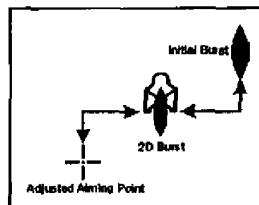

Figure 071-312-3031-3. Adjusted aiming point method
4. Adjust fire using the adjusted aiming point method (figure 071-312-3031-3).